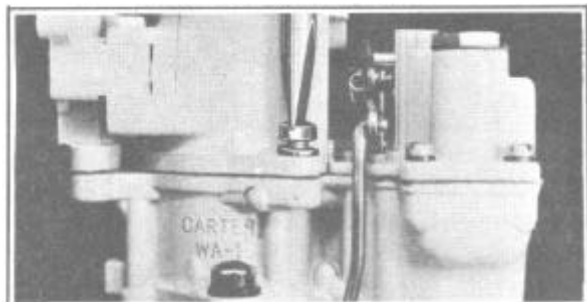

FIGURE 48
24. Install air horn and piston housing assembly, Figure 48. Install screws and lock-washers. Tighten screws evenly.